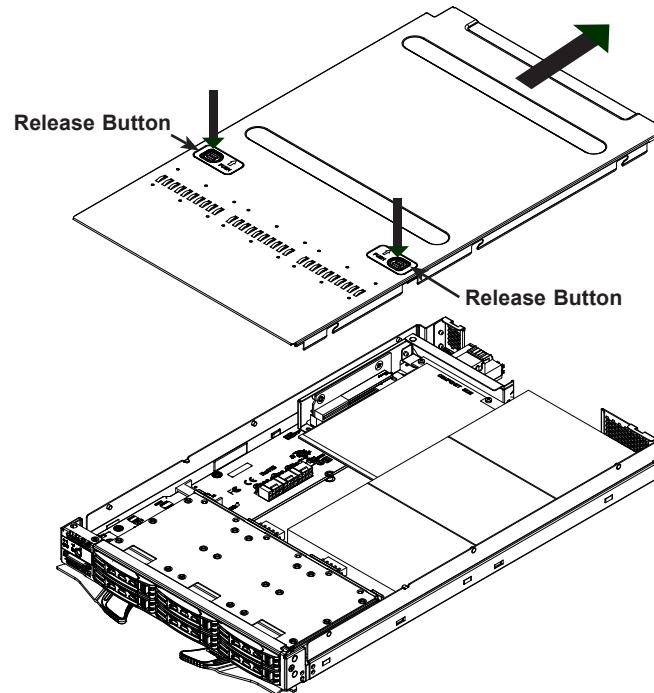

Figure 3-15. Removing the Storage Module Cover
2. Open the top cover of the storage module as shown in Figure 3-15.